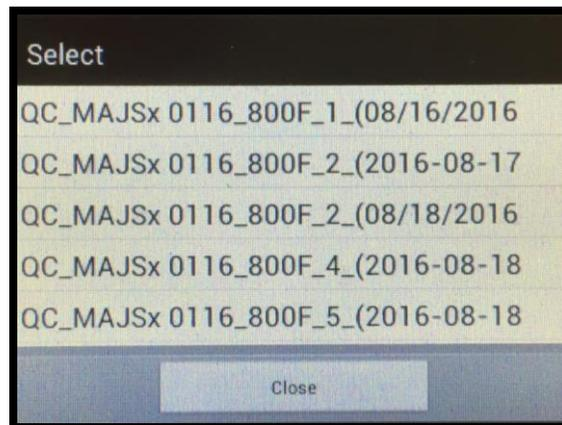

Figure 40
- a. If **YES** is pressed, it will result in the opening of the previous analysis selection chart, where the operator can scroll through and select the previous analysis they would like to repeat. In order to scroll the chart, press the bottom of the window and move in an upward direction to scroll up, and/or by starting at the top and moving in a downward direction, the chart will scroll down. (See Figure 40)